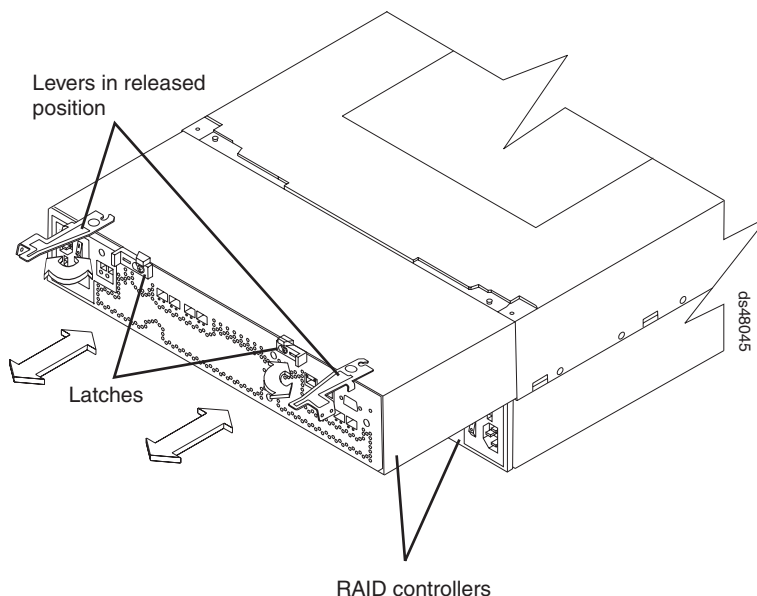

Figure 90. Removing a controller from the DS4800
10. Release the controller levers and remove the failed controller. Figure 90 shows the controller sliding from the storage subsystem chassis.